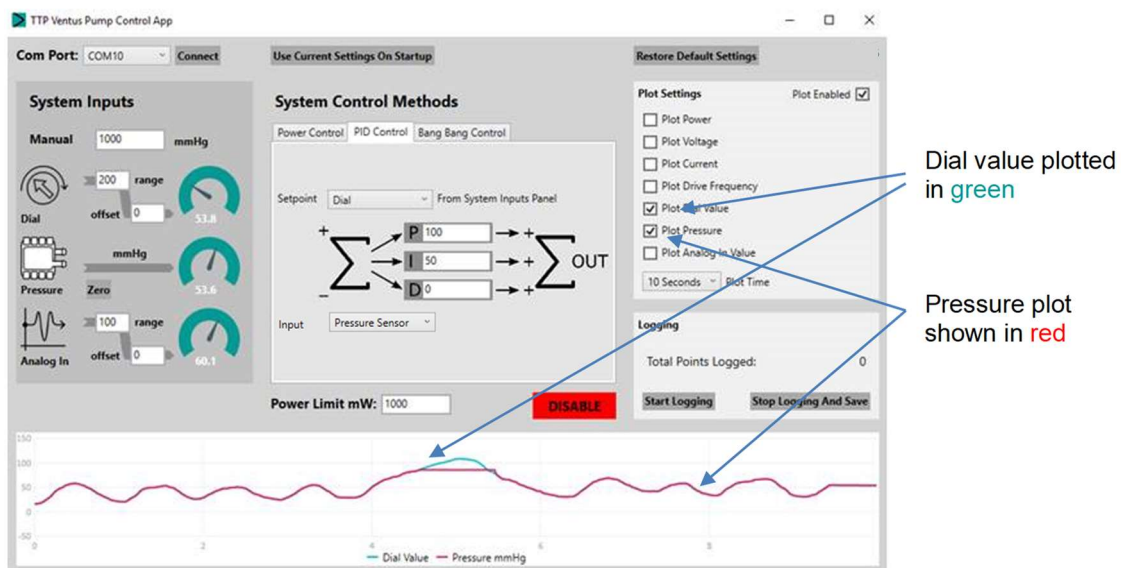

Figure 12: GUI showing PID control set up
3. In the second drop down box below the PID variables, select Pressure Sensor. (This is the variable which is controlled by the PID loop to match the control input). See Figure 12 for further details.
Figure 12 shows how the output pressure profile matches the setpoint dial value (our simulated analogue input) exactly. The only time the waveforms do not match is when the pump is asked to produce a pressure higher than it is capable of achieving against the vent orifice and within the constraints of the power limit set in the software.